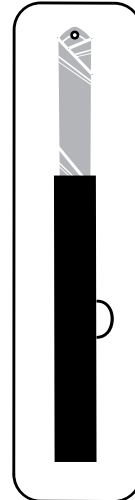

Figure 11: Sleeve end first into bag.
- Insert your sail sleeve-end first into the sail bag (fig. 11).